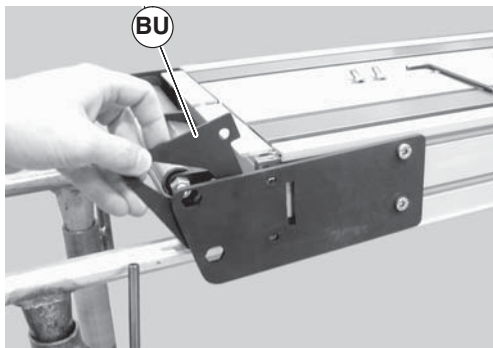

Figure 56
3. Remove the inner spacer (Figure 56, item BU).